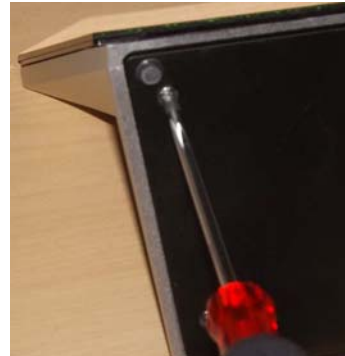

FIG. 3 REMOVING THE PHILLIPS HEAD SCREWS FROM THE BOTTOM OF THE TOUCH PANEL
3. On the touch panel, turn the touch panel upside down and remove the 2 Phillips head screws at each corner from the bottom of the device (FIG. 3).